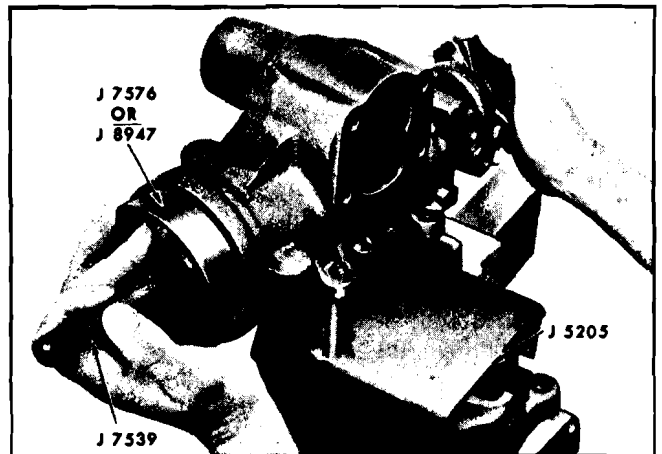

Fig. 9-77 Installing Rack Piston Nut
2. Holding teflon ring compressor sleeve tool J 8947 or J 7576 tightly against the shoulder of gear housing, insert the rack-piston nut and arbor into housing holding the arbor (tool J 7539) until arbor contacts worm end. Use tool J 8947 on Pontiac Catalina models without air conditioning and all Tempest and Firebird models or tool J 7576 on all Pontiac and Grand Prix models except Pontiac Catalina models without air conditioning (Fig. 9-77).